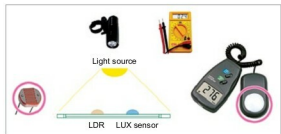

Fig. 2: Measuring the values of an LDR using lux meter
3. Place the sensor of the lux meter (Fig. 2) near the LDR